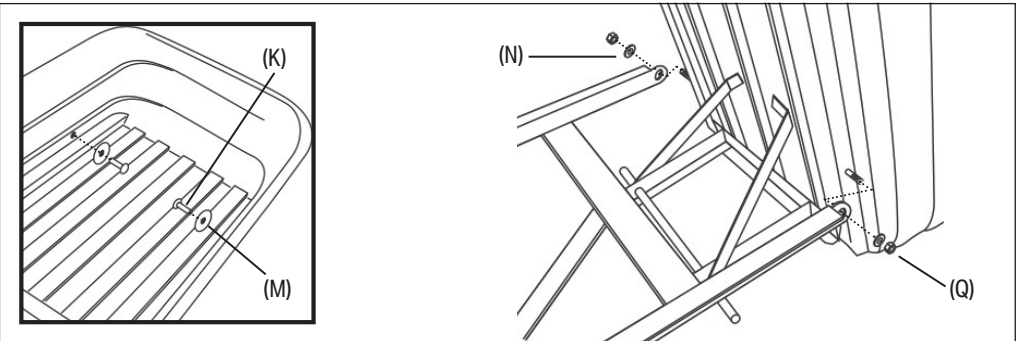
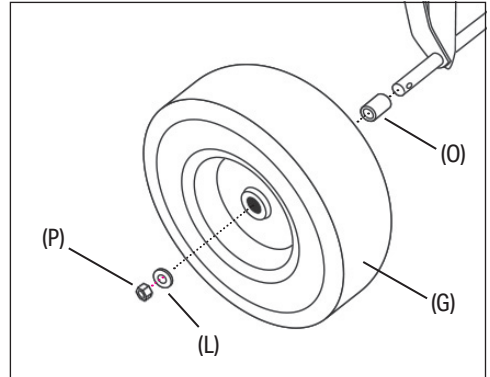

Fig. 4
Fig. 5
4. Attach the base frame assembly to the hopper - Fig. 4:
- b. Pass two M8 x 20mm round-headed bolts (K) each through an M10 washer (M) and outward through the hopper and base frame.
- c. Secure each bolt in place with an M8 washer (N) and an M8 nylon-insert lock nut (Q).
5. Attach the wheels - Fig. 5:
- (A) Place an M16 x 7mm spacer (O) and then a wheel (G) onto each axle, ensuring that the wheels' axle sockets extend inwards.
- (B) Secure each wheel in place with an M11 washer (L) and an M12 nylon-insert lock nut (P).